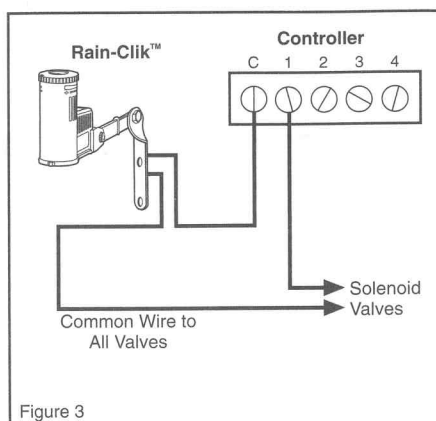

Figure 3
- A. 24 Volt Solenoid Valves Only (No booster pump) (See Figure 3).